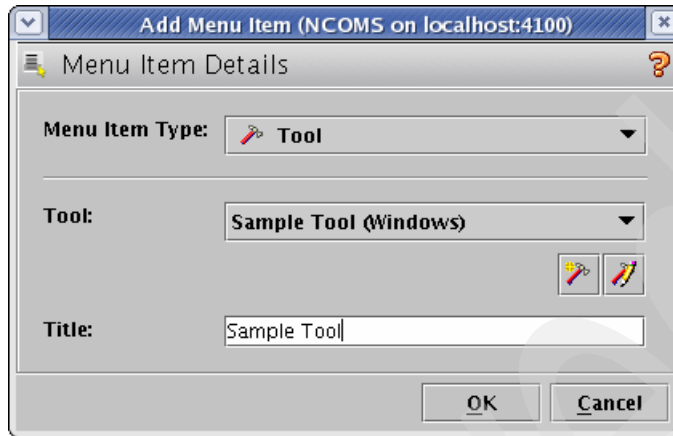

Figure 4-31 Menu definition
- From Figure 4-31, complete the Menu Item Type, Tool, and Title fields, and then click **OK**.